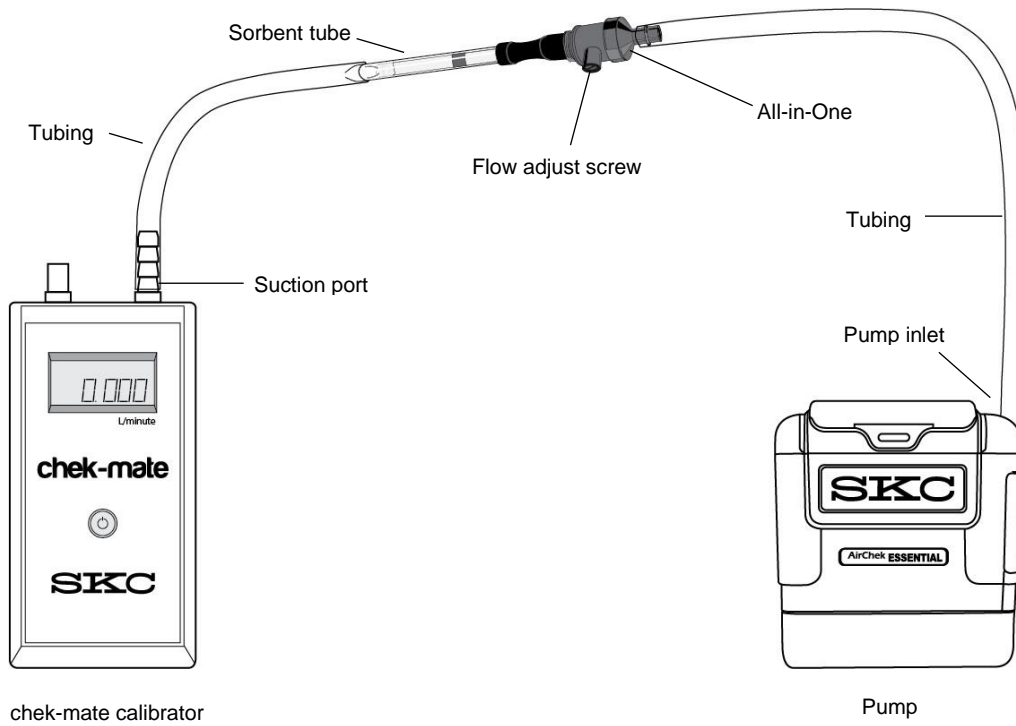

Figure 4. Calibration Train (5 to 500 ml/min) for Single Tube
1. On the tube holder, insert an opened representative tube (arrow on tube pointing toward the pump) into the rubber sleeve on the port. See Figure 4.
Set Up the Calibration Train (Figures 4 and 5)